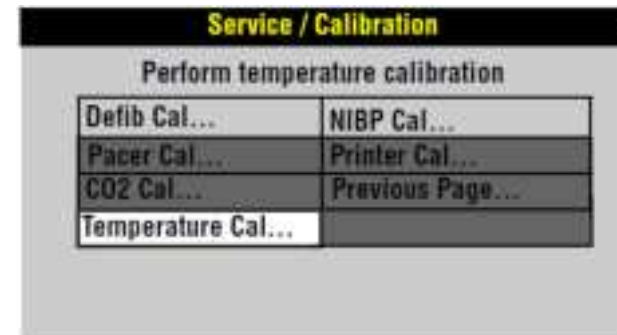

Figure 1.13—Calibration selection
3. Select the Temperature Cal from the Service /Calibration menu as shown in Figure 1.13.